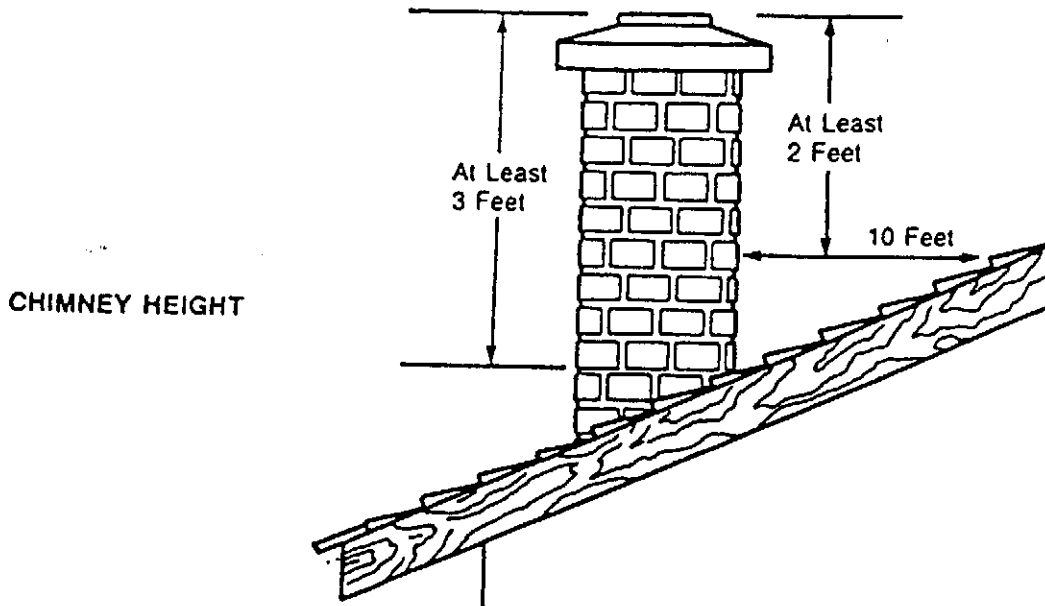

FIGURE 12
4. A chimney must be the required height above the roof or other obstruction for safety and for proper draft operation. The requirement is that the chimney must be at least 3 feet higher than the highest point where it passes through the roof and at least 2 feet higher than the highest part of the roof or structure that is within 10 feet of the chimney, measured horizontally (FIGURE 12).
The chimney must be the required height above the roof or other obstruction for safety and for proper draft operation. The requirement is that the chimney must be at least 3 feet higher than the highest point where it passes through the roof and at least 2 feet higher than the highest part of the roof or structure that is within 10 feet of the chimney, measured horizontally (FIGURE 12).